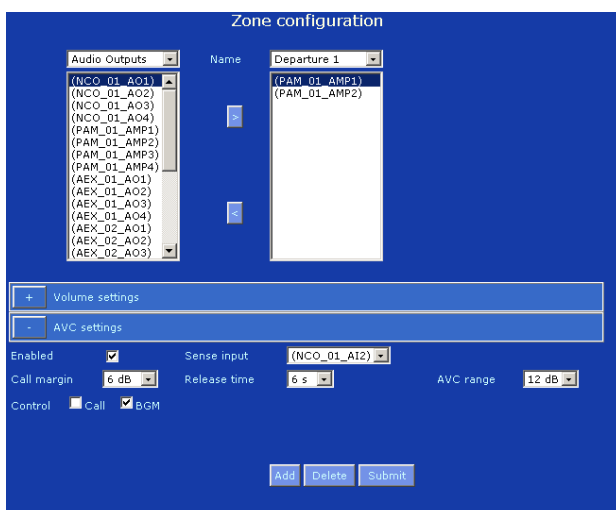

figure 40.1: AVC settings
The connections between the system and the sensing microphones can be supervised (see section 34.3). When the sensing microphone of a zone fails, all calls in the zone are distributed at the maximum volume to comply with evacuation standards. When the sensing microphone of a zone fails, the attenuation of BGM is set to AVC range (see figure 40.1). To prevent undesired supervision faults, make sure that:
- 1 Go to the *AVC settings* category of the *Zone Configuration* page. A screen similar to the one in figure 40.1 appears in the main frame of the web interface.